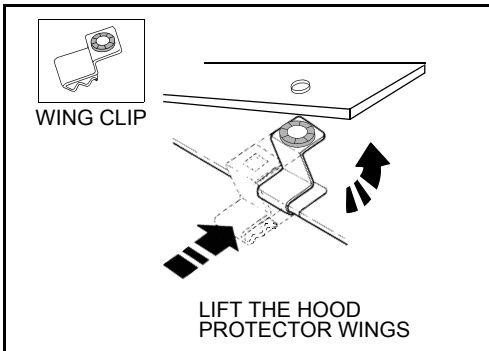

Figure 12.
12. Lift the Hood Protector and slide the wing clips over the hood lip as shown in Figure 12.